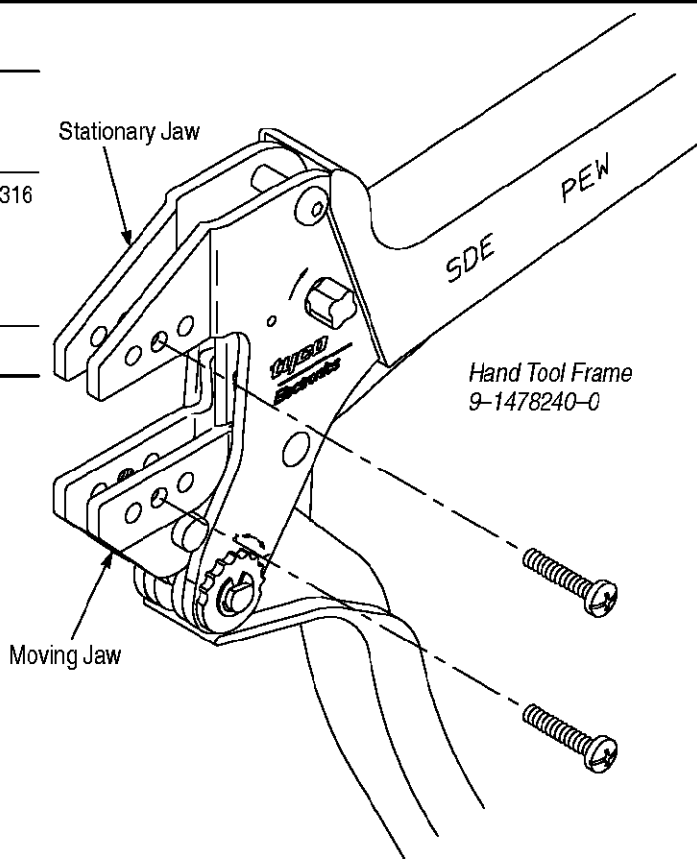

Figure 1
This instruction sheet covers the use and maintenance of GREENPAR Crimping Dies 9-1478243-0, 9-1478245-0, and 9-1478247-0 (in their various configurations – denoted by the dash number following the base part number), used in Hand Tool Frame 9-1478240-0. The dies crimp various plug connectors onto coaxial cable. See Figure 1 for a list of the connector types and cable sizes each die set can crimp.
2. DESCRIPTION (Figure 1)
2. See Figure 1 for normal orientation of the dies. Insert the dies inside the tool jaws and align the retaining screw holes.
- Change hand tool frame part number 1583203-1 to 9-1478240-0 in Figure 1 and Section 1, INTRODUCTION